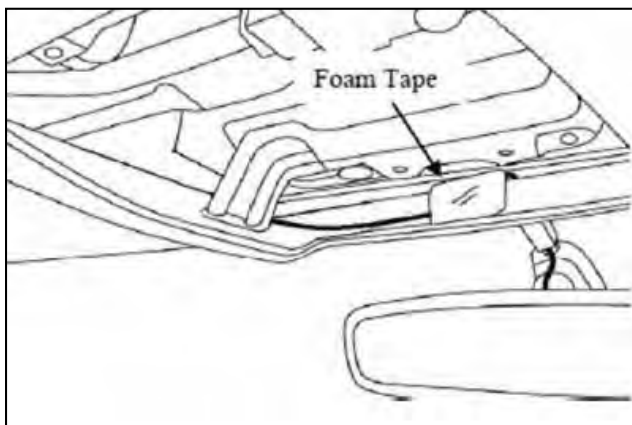

Figure 14
14. Secure the harness to the front center of the headliner with one (1) piece of foam tape. See figure 14.